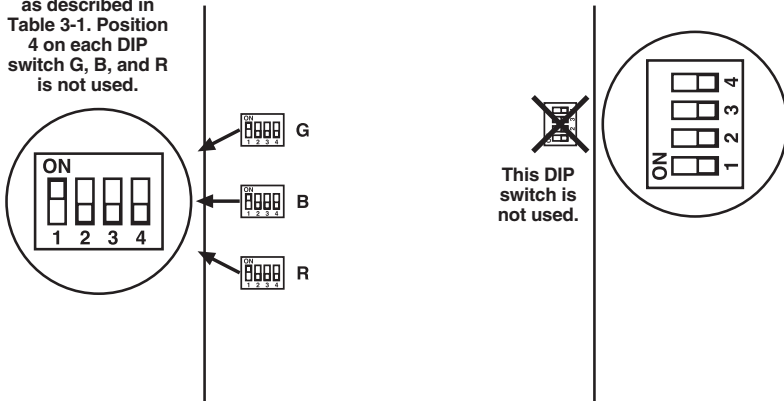

Figure 3-1. DIP Switch Settings for Coarse Adjustment.
1. The bottom of the remote unit contains DIP switches G, B, and R. See **Figure 3-1**.